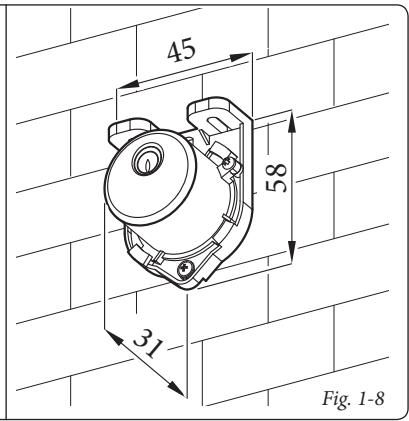

Fig. 1-8
- External temperature probe (Fig. 1-8). The probe can be connected directly to the boiler electrical system and allows the max. system flow temperature to be automatically decreased when the external temperature increases, in order to adjust the heat supplied to the system according to the change in external temperature. The external probe always operates when connected, regardless of the presence or type of heat adjuster used and can work in combination with both heat adjusters. The electric connection of the external probe must take place on clamps G and J on the X86 connection of the boiler. (Fig. 1-4).